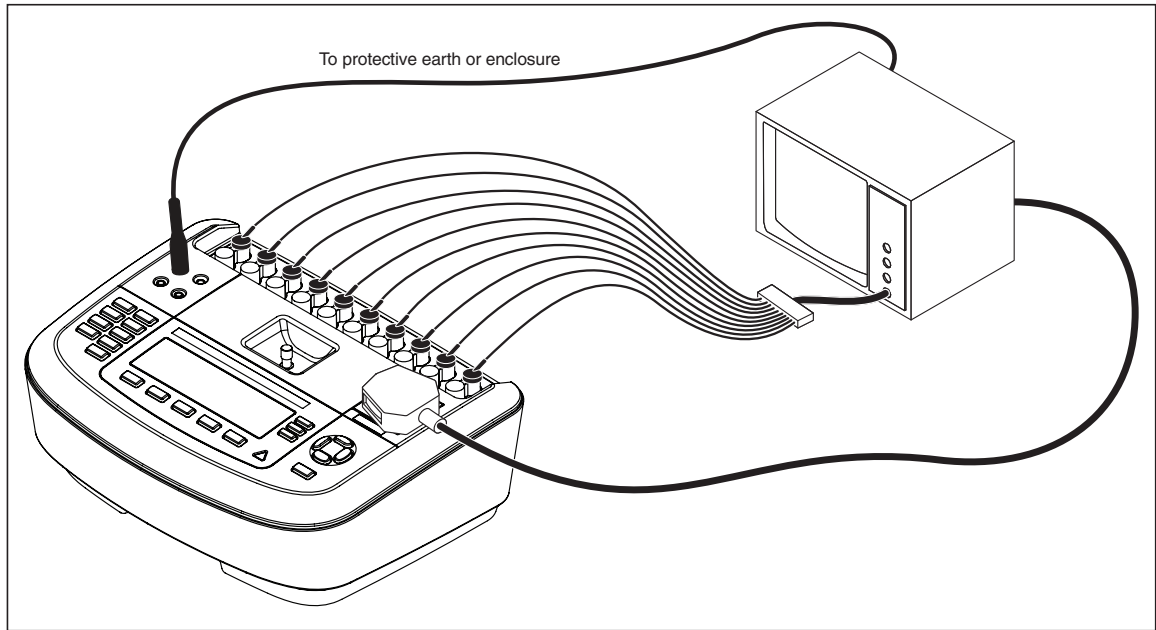

Figure 3-10. DUT Connected to the Analyzer
2. Connect the DUT to the safety analyzer as shown in Figure 3-10. Ensure the connections are made per the connection instructions.